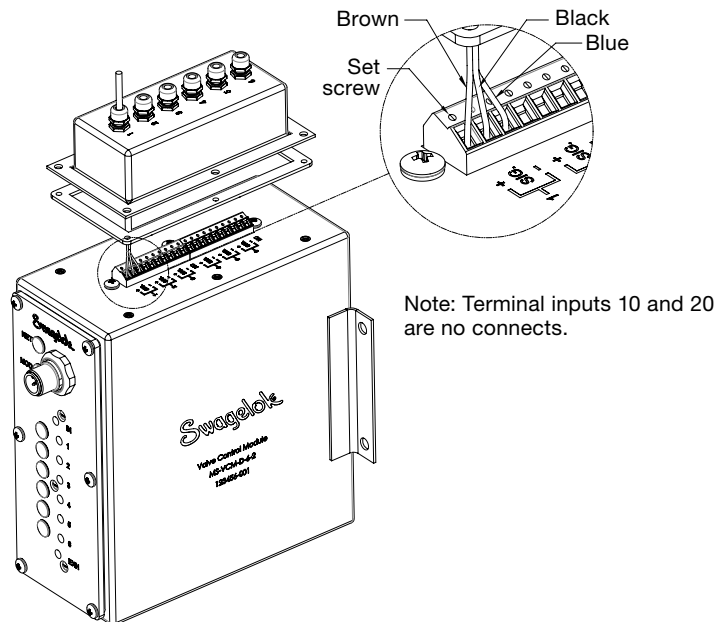

Fig. 10 Connect Wire to Terminal Strip
- b. Insert the wire in the appropriate location. See Fig. 10.